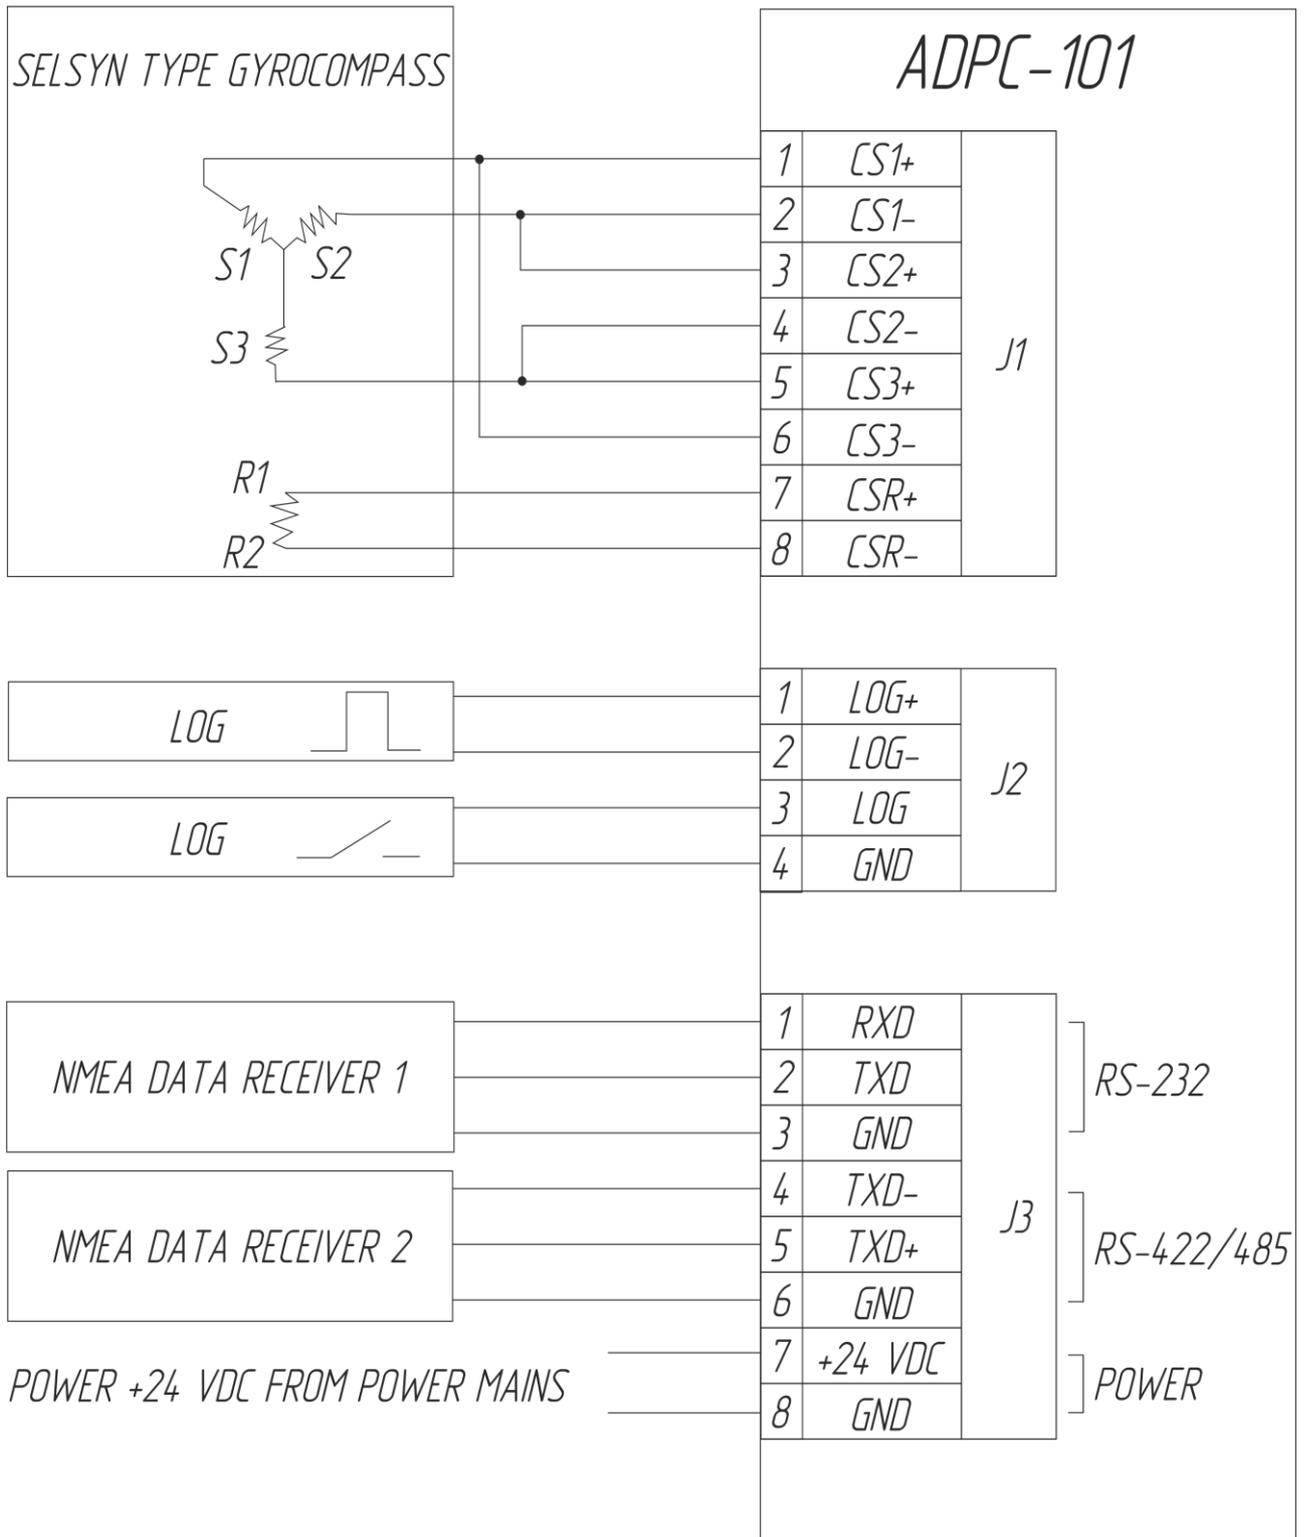
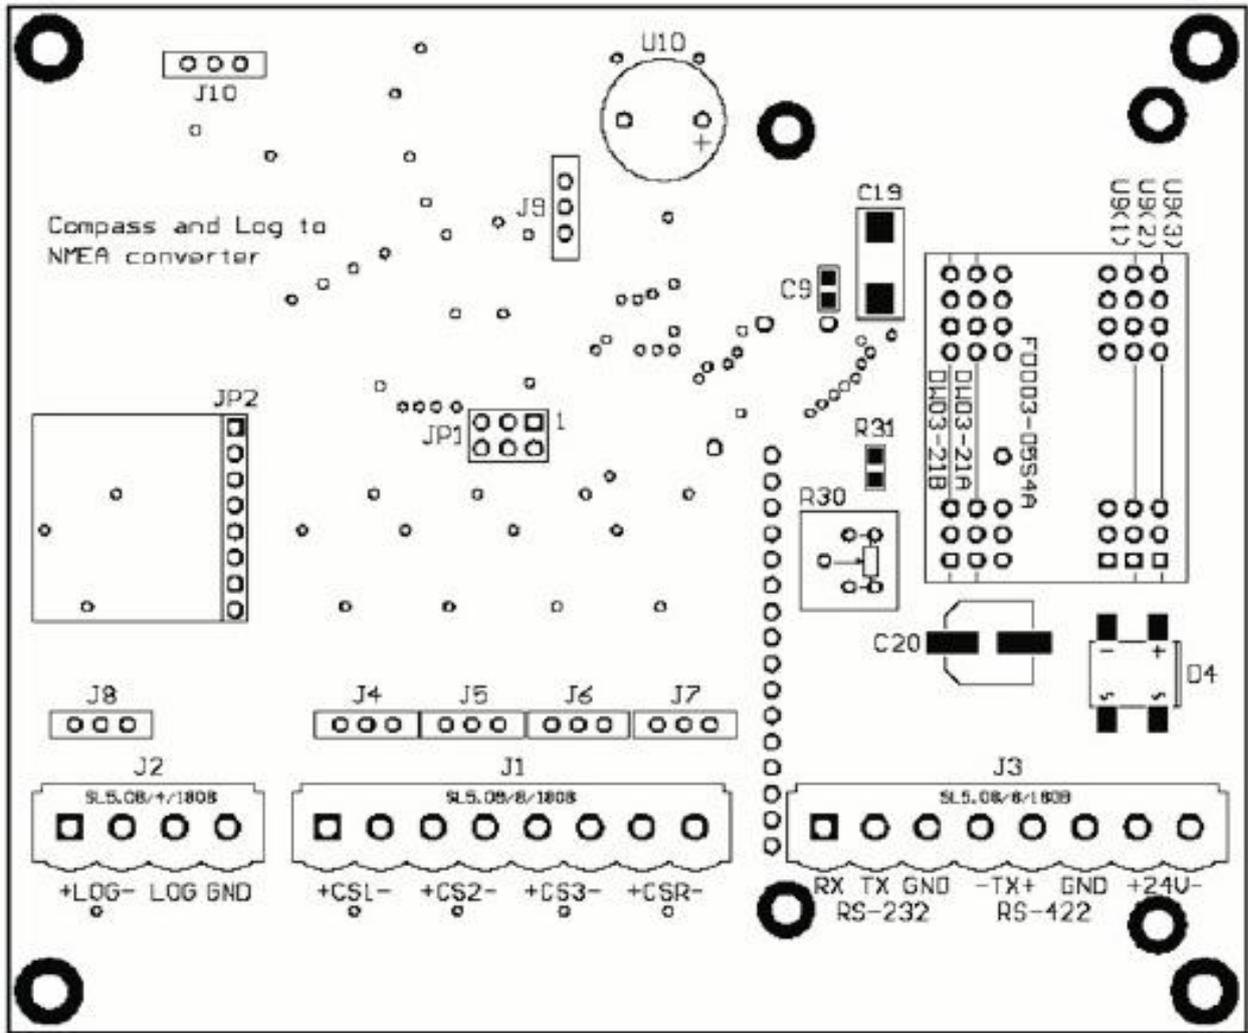

Figure 2 – Connection diagram of selsyn type gyromcompass
Figure 5 – Terminals layout on the Product’s printed circuit board
1.3.2 Connection diagrams of the Product are represented in Figures 2–4; for the layout and assignment of printed circuit board terminal connectors, see Figures 5 and Table 3.
To change switching threshold of log and gyrocompass optoisolated inputs, use DIP-switches “J4”, “J5”, “J6”, “J7”, “J8”, and jumpers (see Figure 5). If contacts are closed, threshold input voltage is 6 V, if opened - 3 V.
Connectors “J9”, “J1” (see Figure 5) are used for device configuration at manufacturing stage and not used during operation.